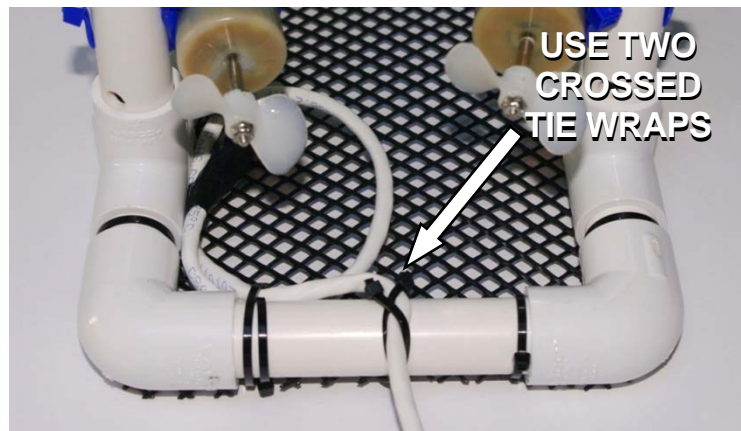

Figure 2.7-2. Tether Cable secured to the Frame and to the Payload Net with Tie Wraps
3. Install **two crossed tie wraps** to capture the tether cable where it passes over the **center** of the pipe at the rear of the ROV, as shown in Figure 2.7-2.